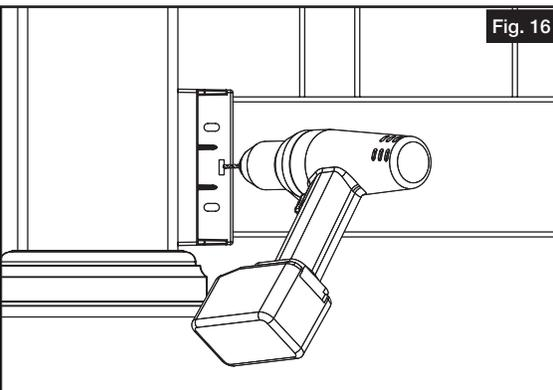

Fig. 16
- a. For each installed bracket, pre-drill in the center of each elongated hole with a $\frac{1}{8}$ " drill bit (Fig. 16).